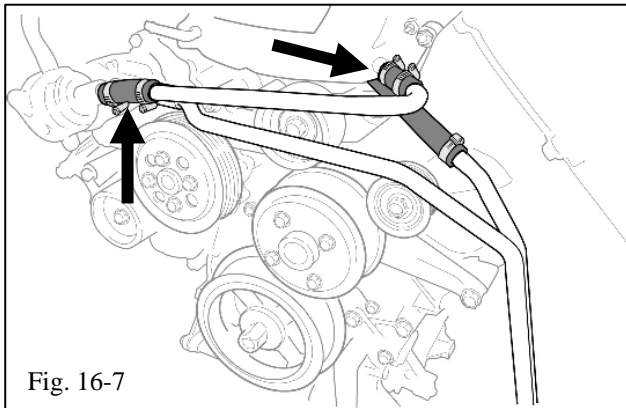

Fig. 16-7
- (k) Slide a supplied screw clamp (Item C3) on each end of the “J” shaped bypass manifold (Item C2) and attach it to the thermostat housing and the coolant crossover manifold (Fig. 16-7). Ensure the tube fits comfortably without any kinks and tighten the screw clamps.